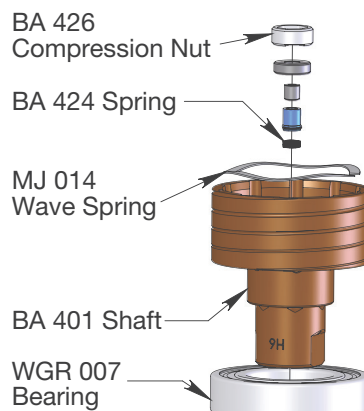

Figure 11: For Steps 5-9
9. Slide Wave Spring (MJ 014) in open end of Shaft down to inner shoulder (see Figure 11).